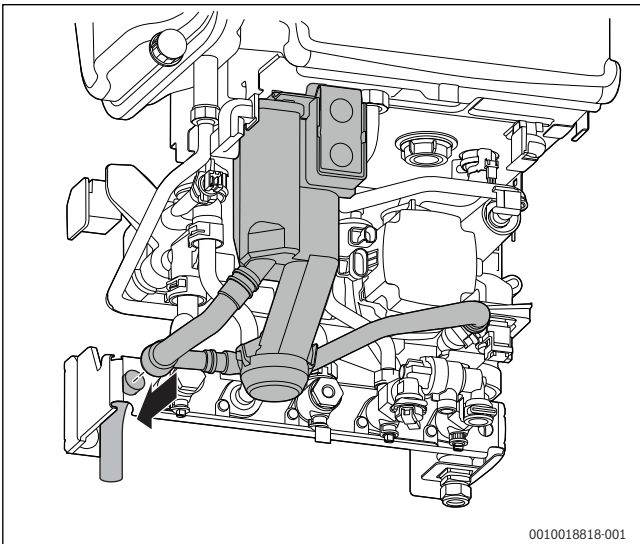

Fig. 46 Condensate connection
- ▶ Refer to Fig. 46, condensate connection: